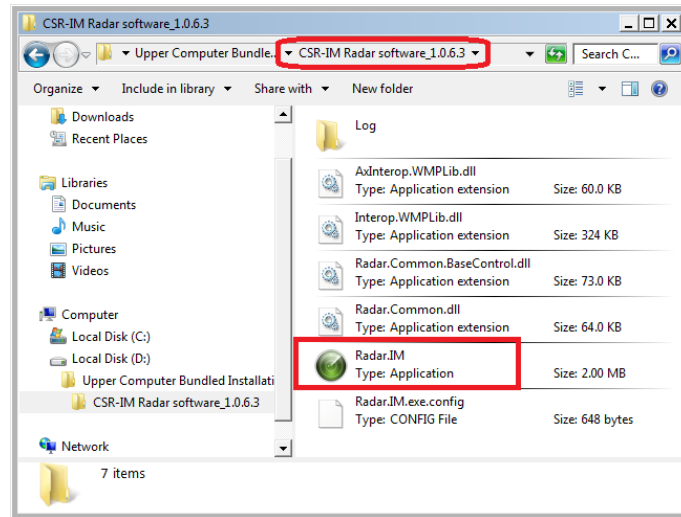

Figure 3.3: The Radar Upper Computer Program: Radar.IM.exe
- (1) Double click the program “Radar.IM.exe” in document folder 【CSR-IM Radar software_1.0.6.4】 to open, as shown in figure 3.3